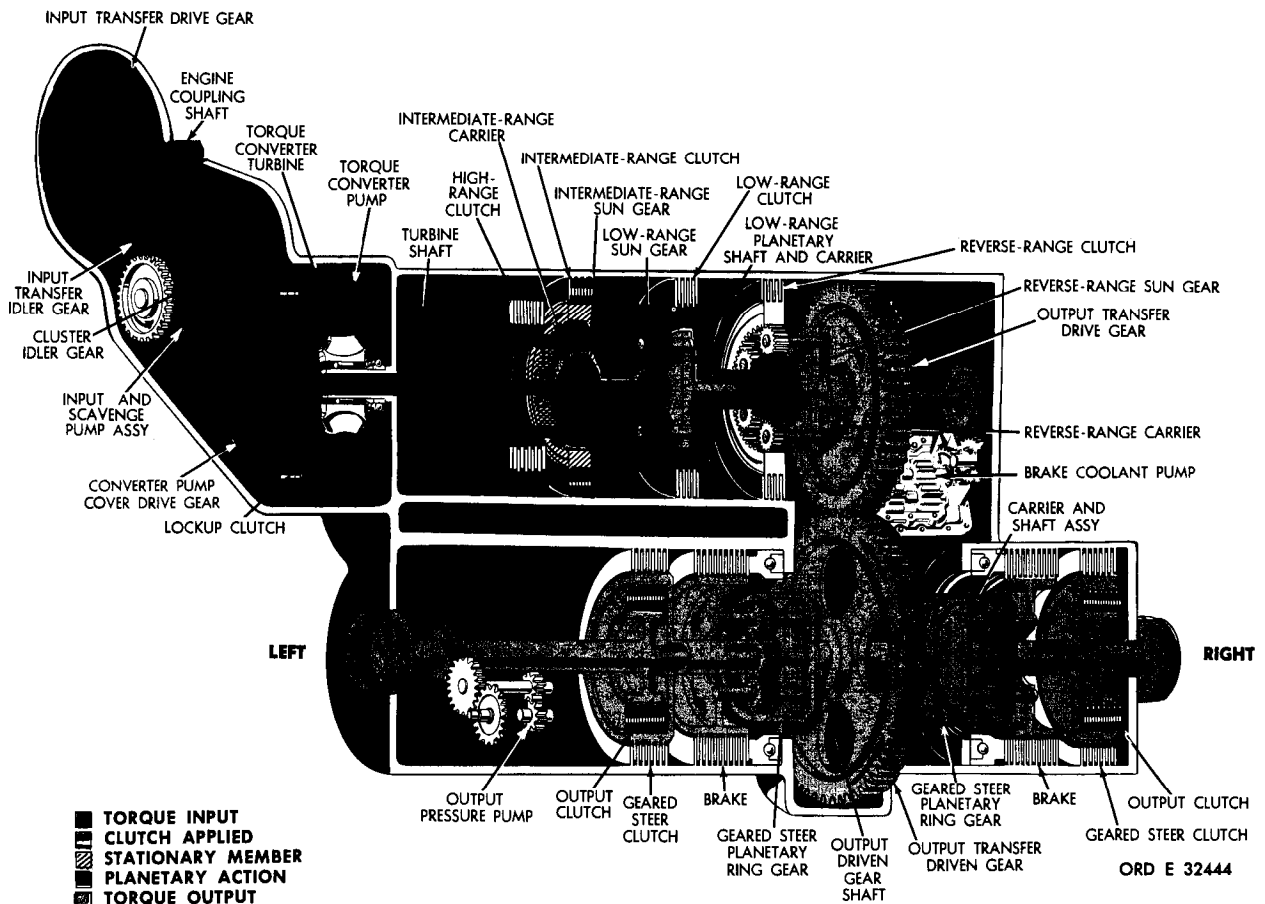

Figure 25. Third-gear torque path, lockup operation
49. TORQUE PATH - THIRD GEAR, LOCKUP OPERATION (fig. 25)